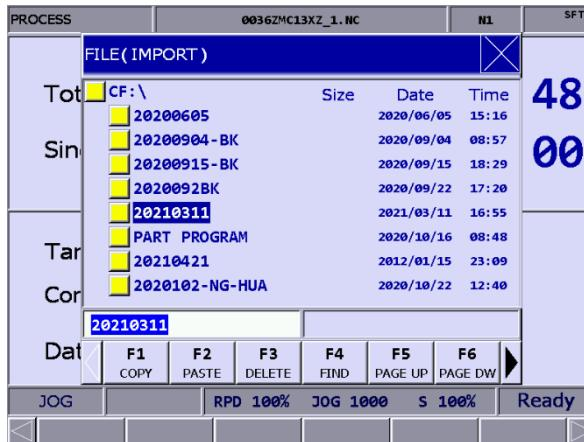

Figure 9.8.1
- (1) Press **DGN** to enter the DGN screen.
- (2) Press ► to display the function bar on the next page.
- (3) Press **IMPORT** to display the file manager (FILE) window as shown in Figure 9.8.1. Press **↑** and **↓**, select the directory for importing, and press **ENTER** to read the files in the folder.